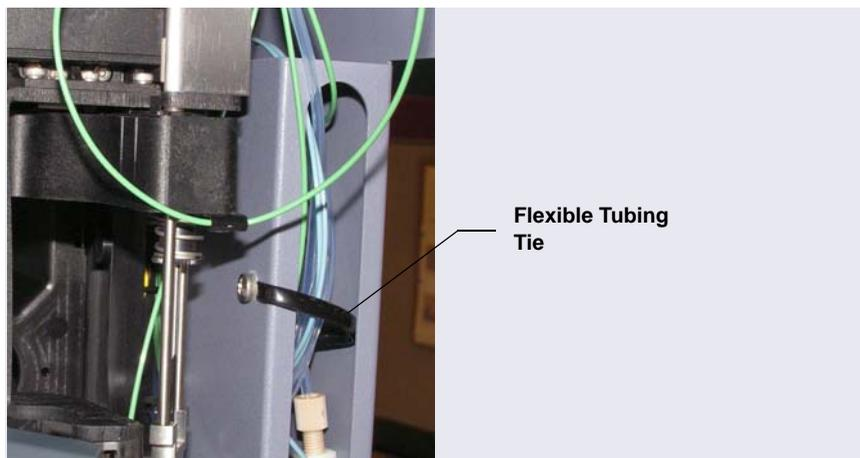

Figure 3-16. Flexible Tubing Tie in Dionex AS-AP Slotted Compartment
- To ensure the waste lines do not interfere with needle arm movement in the Dionex AS-AP, secure the excess tubing with the flexible tubing tie in the slotted compartment next to the needle (see Figure 3-16).